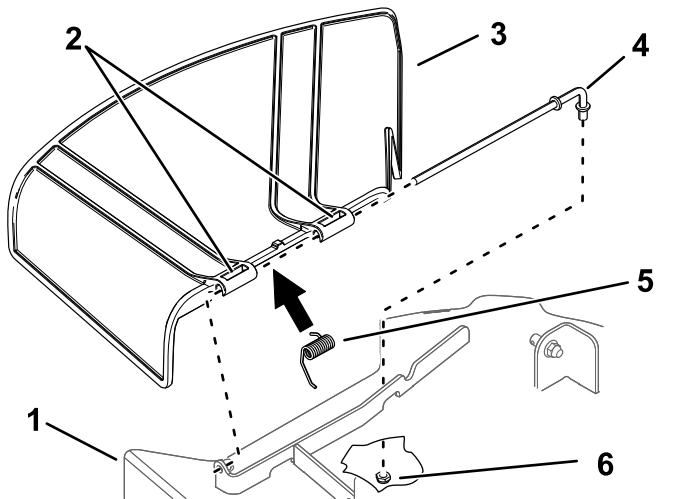

Figure 66
- Slide the rod through the second grass-deflector bracket (Figure 66).
- Remove the nut (3/8 inch) from the rod under the mower (Figure 66).
- Slide the rod out of the short stand-off, spring, and grass deflector (Figure 66).
- Install the new grass deflector (Figure 66).